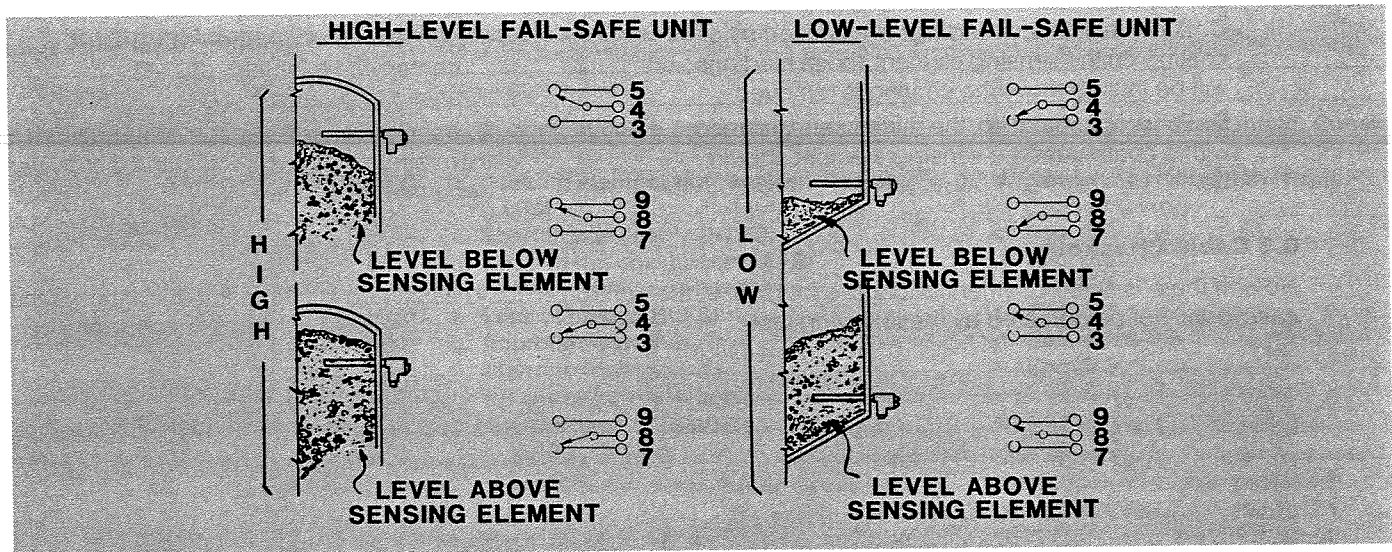

FIGURE 6-2
A. The relay circuit consists of double-pole double-throw relay contacts brought out to a terminal strip. When the relays are operating properly, two pair of contacts will be open with high or low level, and two pair closed with high or low level. See Figure 6-2.
D. Difficulty in calibration can often be traced to improper wiring of the relay terminals to an annunciator or other panel device. Check the wiring against the relay chart in Figure 6-2. Be sure to use the diagram for the fail-safe in which the instrument is set.